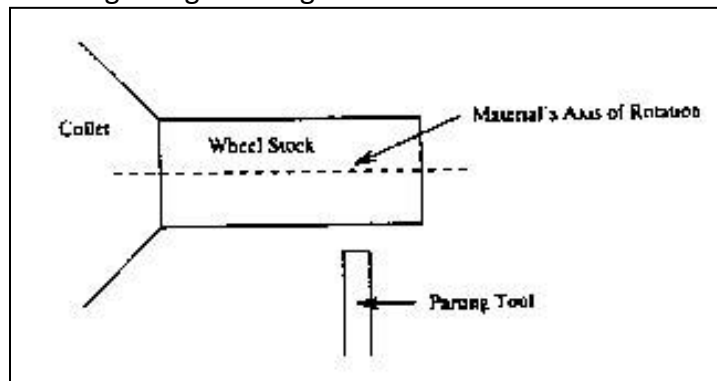

Figure 36: Use The Parting Tool To Cut The Wheels.
6. Obtain a wheel thickness gauge from an instructor. Be certain that the parting tool is at precisely 90deg to the longitudinal axis of material; to do this, place the side of the parting tool against the faced off end of your work piece (see Figure 36).
7. Using the parting tool and wheel gauge (measure thickness of wheel with the gauge it will be 7/32”) and slice off four wheels from the stub (Figure 36). Be sure to center this tool as well. Do NOT use auto feed for this process. Be sure to bathe the parting tool and the aluminum piece with cutting fluid continuously as you cut into the aluminum. It is not necessary to feed the parting tool past the center of the aluminum bar stock.